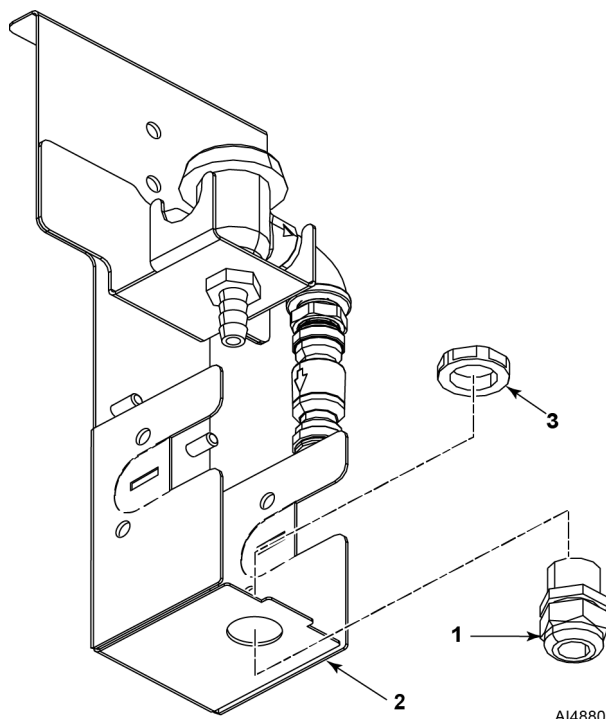

Fig. 7
4. Install strain relief included with DWT Power Cable (1, Fig. 7) in DWT bracket assembly (2) and secure in place with jam nut (3).